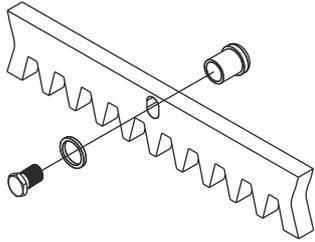

Fig. 6
5.2. Fix on each gear rack element the support pawls with the appropriate lock screws, making sure to put them in the upper part of the hole (Fig. 6);